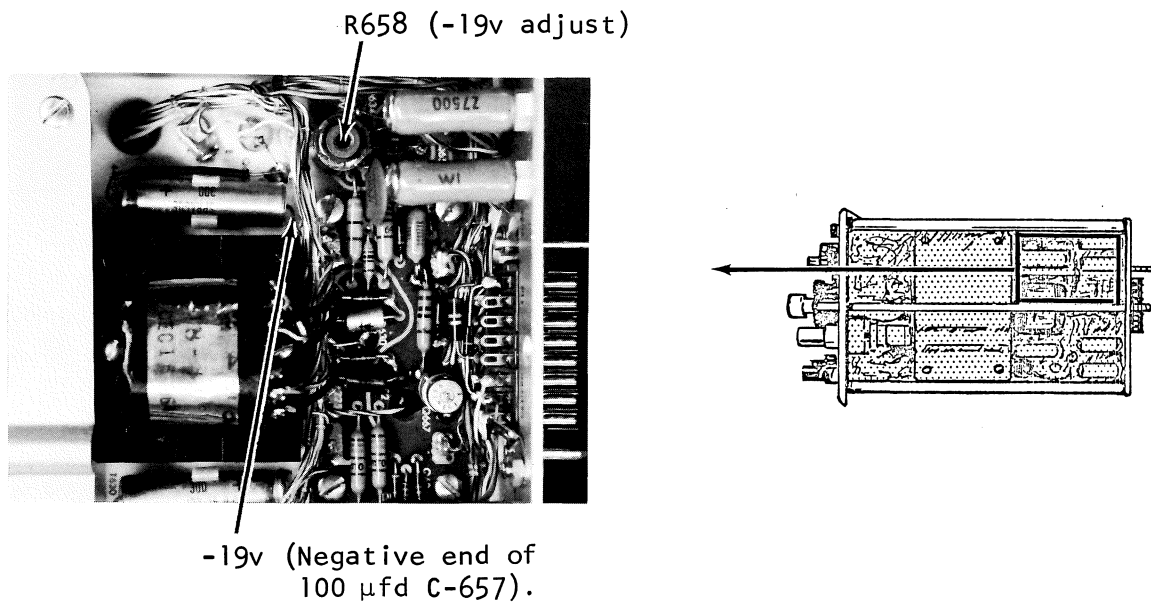

Figure 5-3
(See figure 5-3).
2. Adjust R658 (see figure 5-3) for exactly -19v as read on the VOM.
1. Connect a X1 probe from the test scope to the -19v supply (refer to figure 5-3). Set the test scope sensitivity to .005 v/cm.